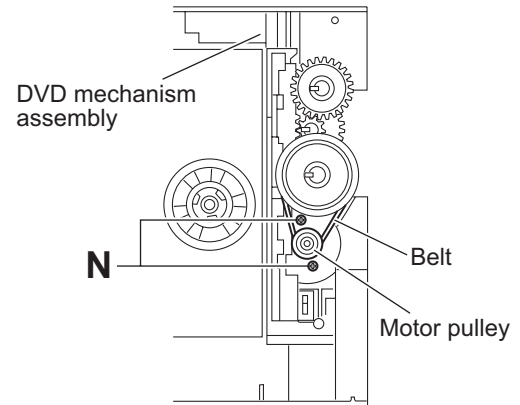

Fig.18
- (2) From the top side of the DVD mechanism assembly, remove the belt from the motor pulley. (See Fig.18.)
- (3) Remove the two screws **N** attaching the motor to the DVD mechanism assembly and take out the motor from the bottom side of the DVD mechanism assembly. (See Fig.18.)